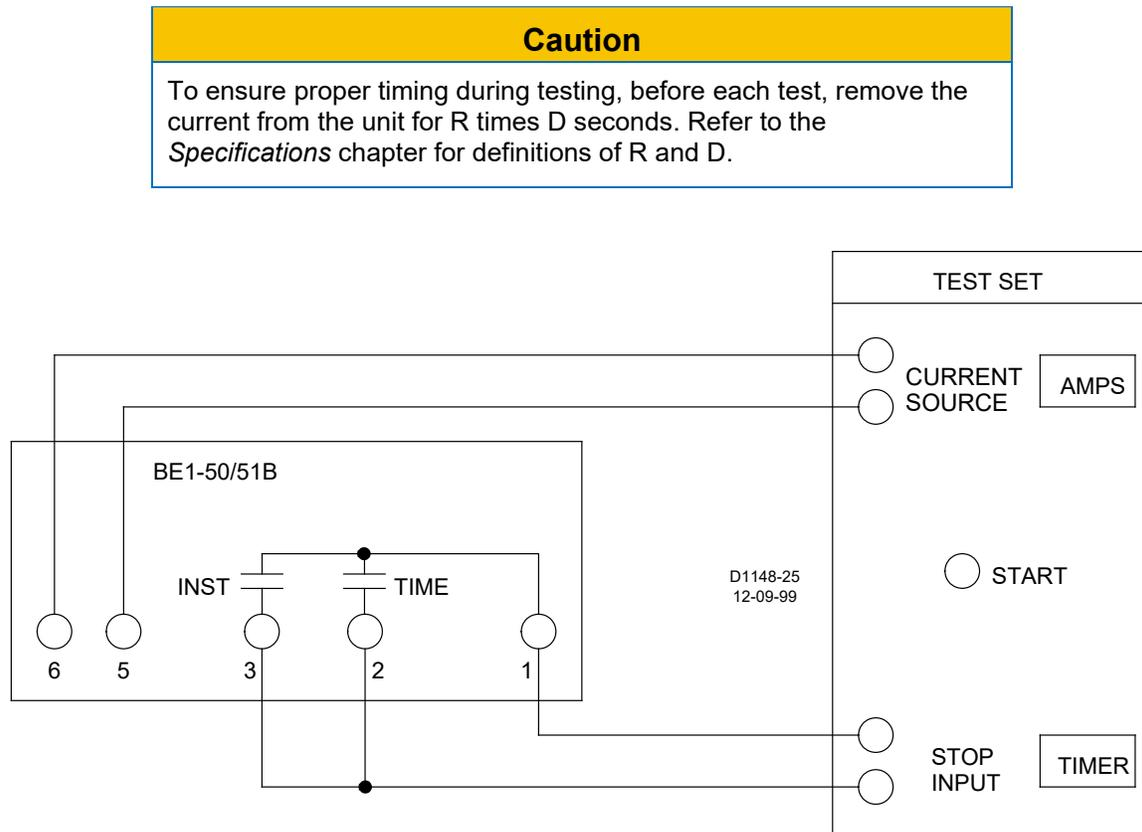

Figure 5-1. Pickup and Timing Test Setup
The following procedures verify operation of relays BE1-50/51B-218 (5-ampere model) and BE1-50/51B-228 (1-ampere model). The test setup of Figures 5-1 and 5-2 are intended primarily as an illustration of the principles involved. Other test setups known to be capable of testing with the stated and implied tolerances (including equipment specifically designed for testing relays) may be used.
- a. Connect test setup as shown in Figure 5-1.